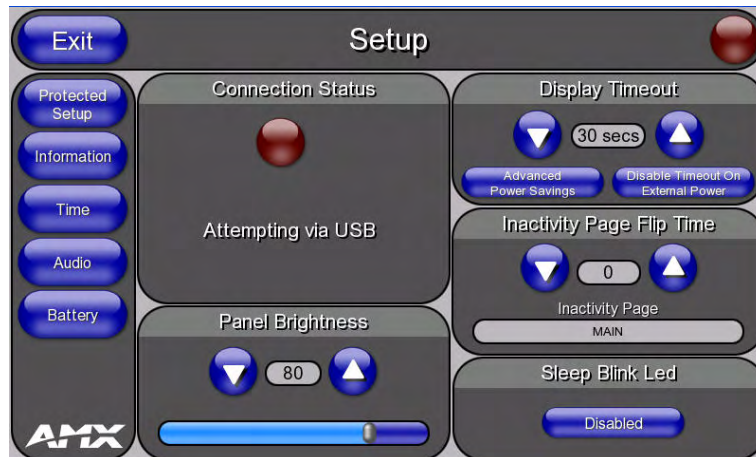

FIG. 17 Setup page
1. At any time, press down and hold the center button of the navigation wheel for 3-5 seconds. This opens a release notice to release the button immediately to open the *Setup* page (FIG. 17).